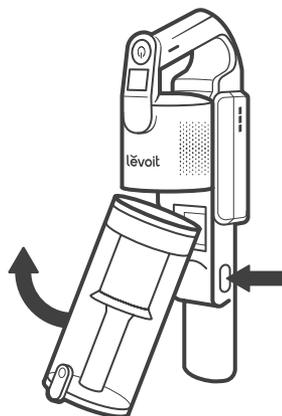

Figure 3.1
2. Press the Dust Bin Release Button and pull the dust bin to remove it. [Figure 3.1] Empty out any remaining dust and debris, and remove any hair tangled around the metal filter.